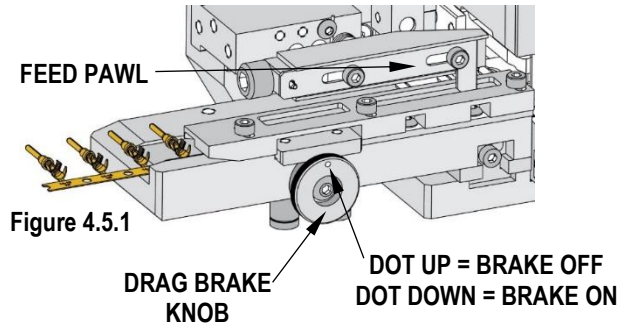

Figure 4.5.1
3. Rotate the drag brake knob until the dot is up. The dot on the drag brake knob indicates the drag brake status. See Figure 4.5.1.